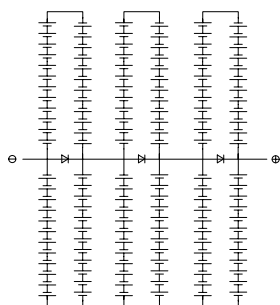

Figure 7: Electrical circuitry of cells and bypass diodes
Yingli Solar GG modules are provided with two (2) stranded, sunlight resistant output cables that are terminated with PV connectors ready for most installations. The positive (+) terminal has a female connector while the negative (-) terminal has a male connector. The module wiring is intended for series connections [i.e. female (+) to male (-) interconnections, see Figure 7], but can also be used to connect suitable third-party electrical devices that may have alternative wiring configurations so long as the manufacturer's instructions are followed.
Bypass diodes divert current from the cell strings in the event of partial shading. See Figure 7 for a diagram showing how the cell strings are electrically connected with the diodes. In the event of a known or suspected diode failure, installers or maintenance providers should contact the company which the GG modules were purchased from. Never attempts to open the junction box of a Yingli Solar GG module yourself.